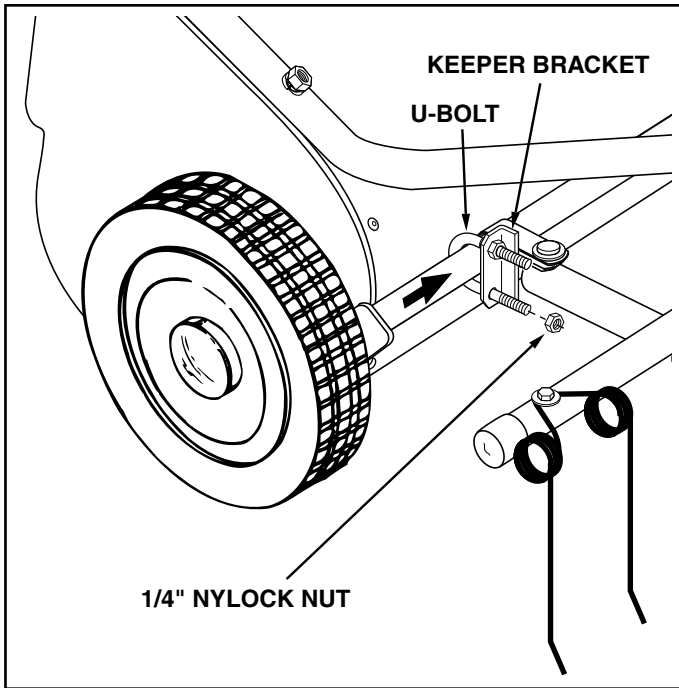

FIGURE 11
- Assemble the keeper brackets (bend to the inside) to the sweeper's hitch tube, outside of the conduit clamps. Use a u-bolt and two 1/4" nylock nuts per bracket. Position the keeper brackets against the sides of the conduit clamps, approximately perpendicular to the ground. Tighten the nylock nuts without bending the keeper brackets. See figure 11.